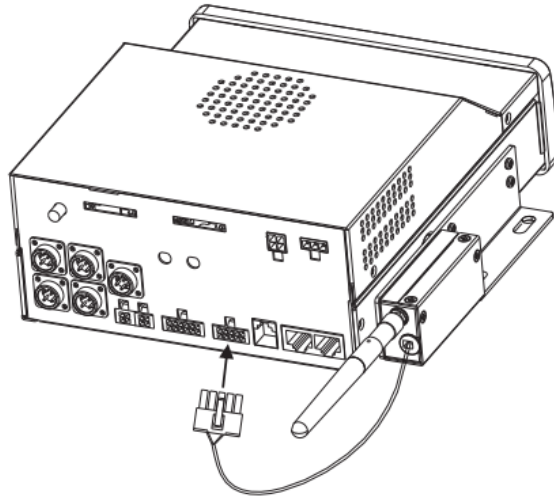

Figure 2-9
Step 3: Connect the cable of the WIFI module to the corresponding port of the device. See Figure 2-9.